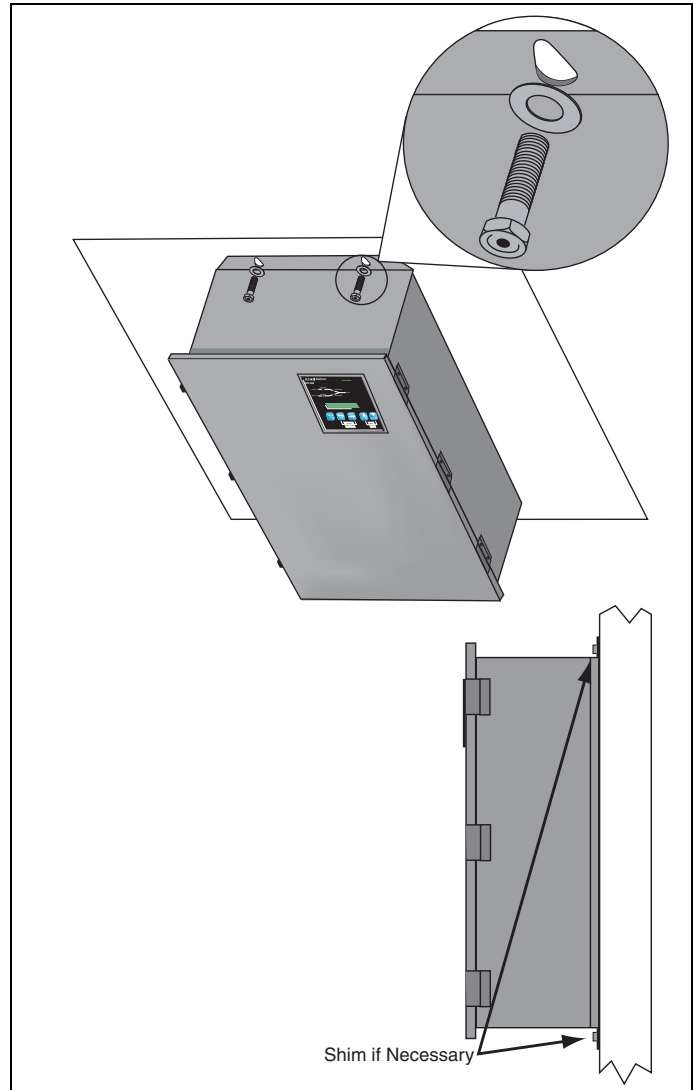

Figure 20. Mounting Details.
Step 1: Mount the ATS on a flat rigid surface (Figure 20). Shim if necessary.